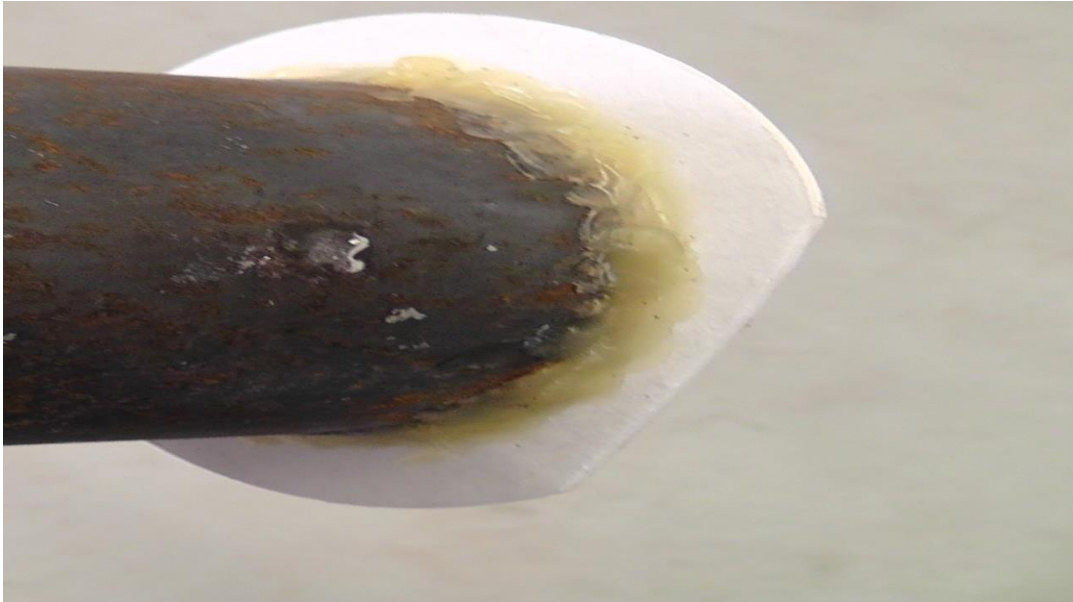

Figure 4: attaching the base to flask with wax
3. Attach the platinum base to the metal flask with wax around it, as shown in Figure 4.